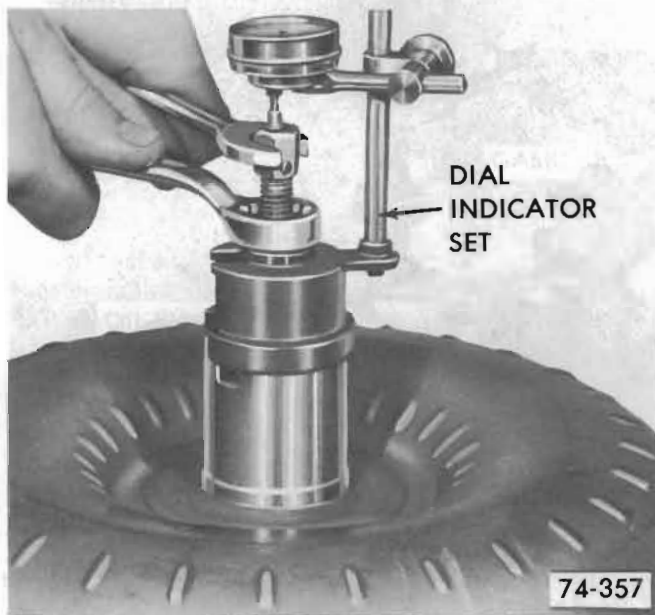

Figure 75-286
4. Loosen hex nut. See Figure 75-286. When nut is fully loosened the reading obtained on the dial indicator will be converter end clearance. If clearance is .050" or over and the oil has the appearance of having been mixed with aluminum paint, replace the converter.